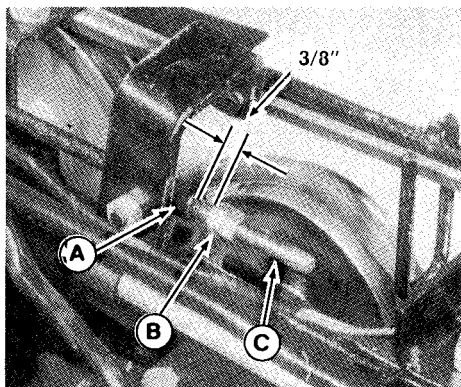

Figure 35. Clutch Rod Clearance Adjustment
- Pull back firmly on the clutch rod (C, figure 35). There should be a $\frac{3}{8}$ inch (9.5 mm) gap between the clutch rod guide (A) and the clutch rod adjusting nut (B).